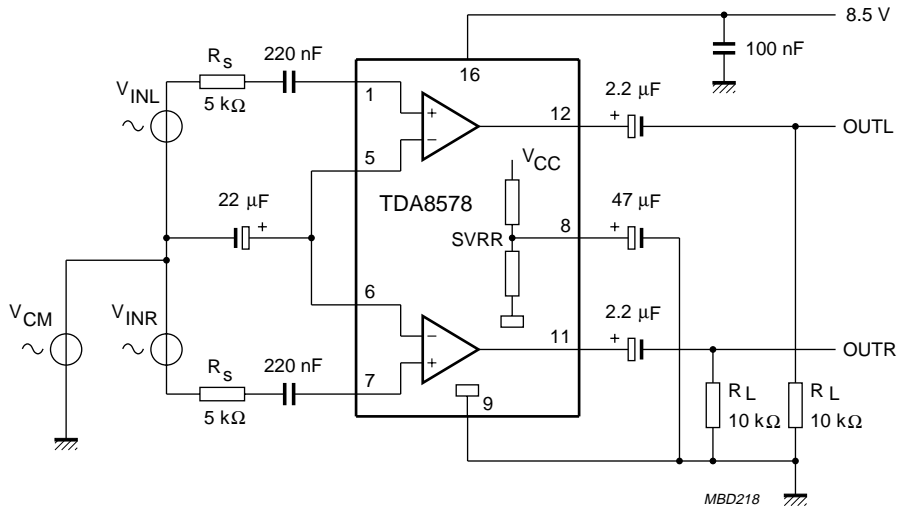

Fig.3 Test circuit.
$V_{CC} = 8.5\text{ V}$ ;  $T_{amb} = 25\text{ °C}$ ; in accordance with test circuit (see Fig.3); unless otherwise specified.
$V_{CC} = 8.5 \text{ V}$ ;  $f = 1 \text{ kHz}$ ;  $T_{amb} = 25 \text{ }^\circ\text{C}$ ; in accordance with test circuit (see Fig.3); unless otherwise specified.
- The common-mode rejection ratio is measured at the output, with a voltage source of 1 V (RMS), in accordance with test circuit (see Fig.3), while  $V_{INL}$  and  $V_{INR}$  are short-circuited. Frequencies between 100 Hz and 100 kHz.